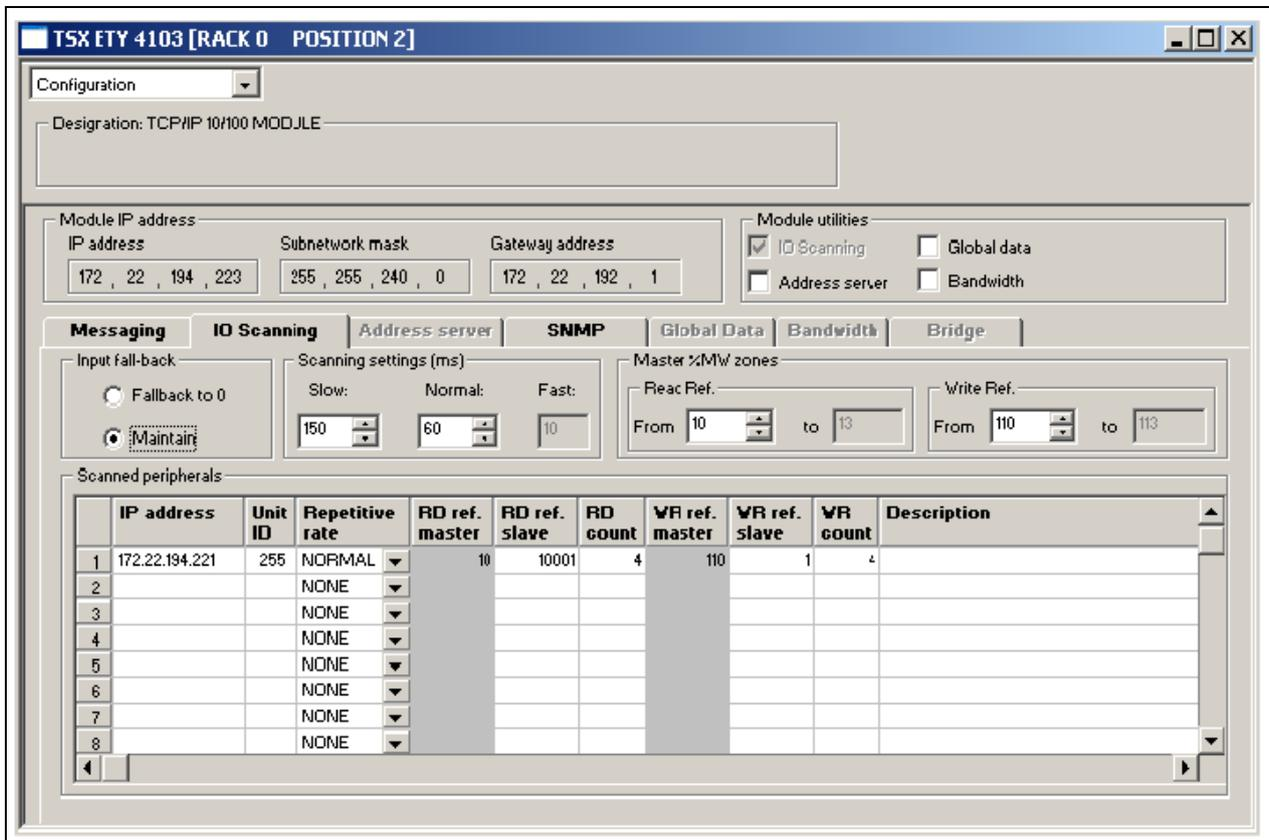

Fig. 3.5 I/O scanning
5. Go to the IO Scanning Tab. See Fig. 3.5.